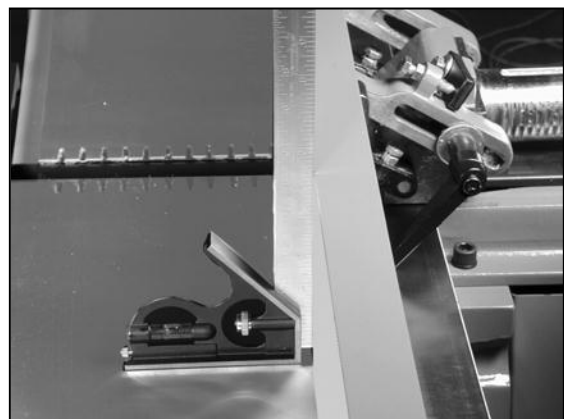

Fig. 6
1. Lay a square on the infeed table as shown in Fig. 6
3. Ensure the 90 degree flip stop (C, Fig. 6) is in the 90 degree position.
4. Loosen the jam nut on the 90 degree adjusting bolt (A, Fig.6) and adjust the bolt against the flip stop until the fence becomes true with the square.